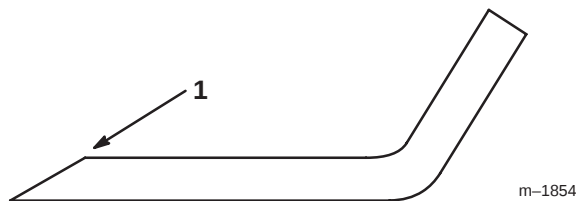

Figure 26
- Use a file to sharpen the cutting edge at both ends of the blade (Fig. 26). Maintain the original angle. The blade retains its balance if the same amount of material is removed from both cutting edges.